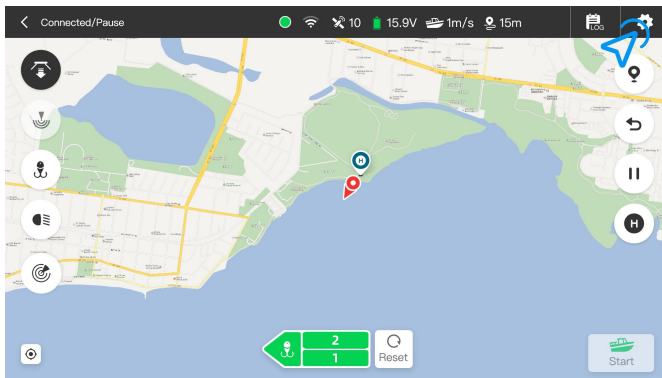

Figure 1
4. Enter the CatchX Pro home interface on the app. Tap the cog icon on top right to enter “**COMMON SETTINGS**”, then tap the ellipsis icon on bottom right (refer to figure 1 and 2 below).